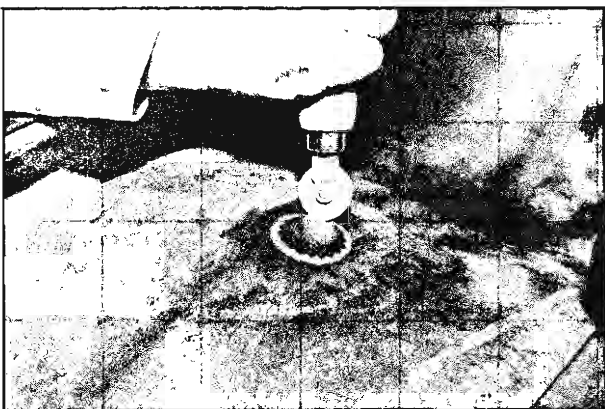

Fig. 49—Stitching Patch
6. Remove foil backing from patch. Place over injury and stitch down firmly, especially the edges, with roller tool included in kit. To prevent buckling and insure a good seal, roll patch from the center toward the outer edges. Vulcanization is completed chemically. (See Figure 49.) The repaired tire can be placed back in service immediately.